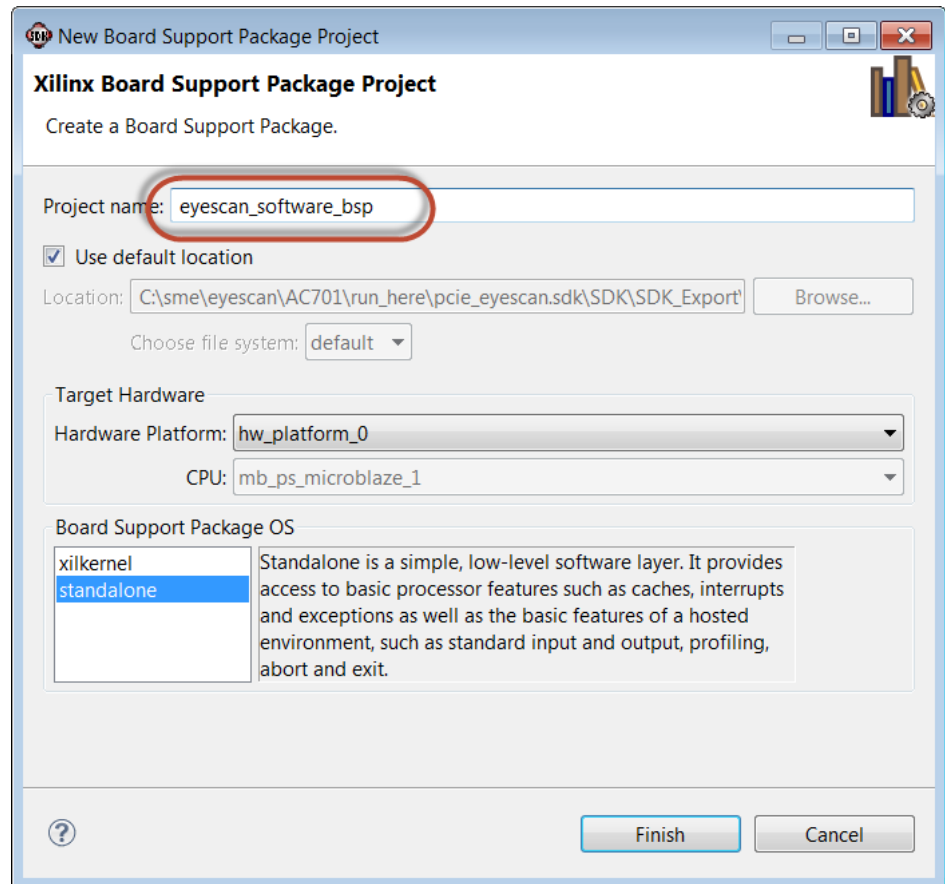

Figure 13: Changing the BSP Project Name
6. Change the name of the BSP to **eyescan_software_bsp** as shown in Figure 13 and select **Finish**. The name of the BSP must be changed so the application can be imported correctly.